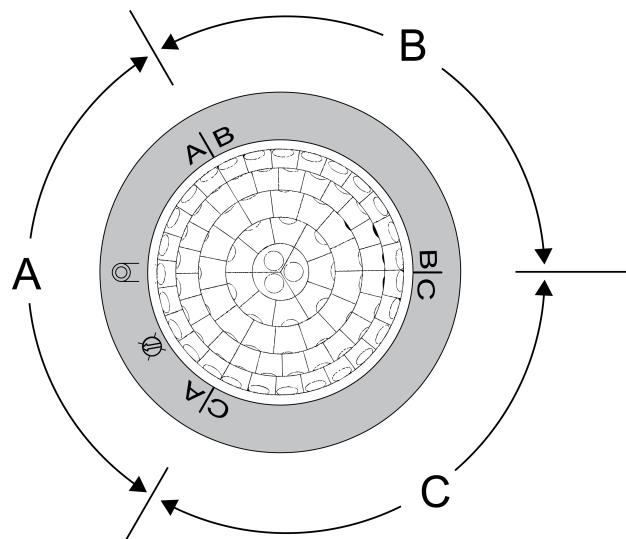

Figure 6: Arrangement of the areas A, B and C
- Align the connection box (1) in such a way that the areas A, B and C match the structural conditions. The arrangement is clearly evident under the decor ring (figure 6).